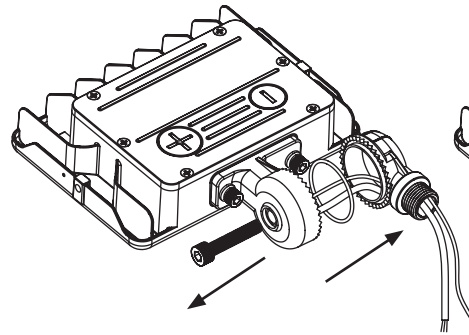

figure 2.1
- Pass the wires through from the other bracket and rubber, and remove it by unscrewing the large screw. (figure 2.1)